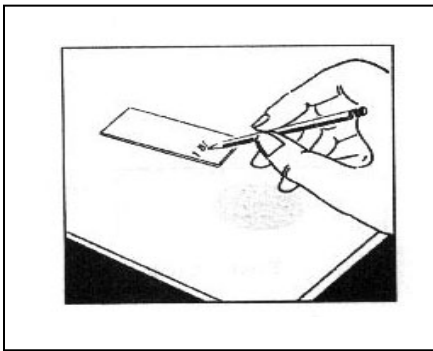

Fig. 5
- Select a new clean unscratched slide and write the Laboratory Serial Number and the Sample Number A, B or C using a diamond pencil on one end of the slide. (A, B and C indicate the 1st 2nd and the 3rd sample) E.g.325/A (Fig.5)